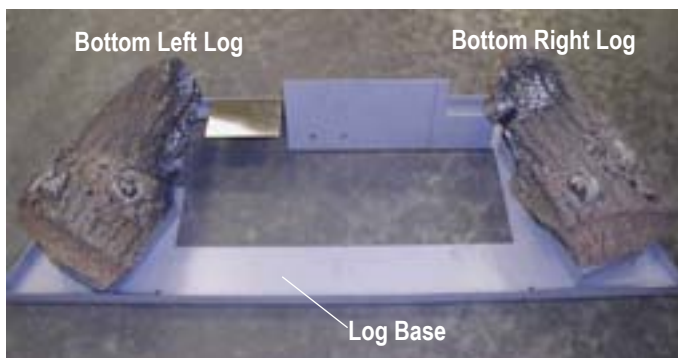

Figure 29a. Bottom left & right log placements.
- Step 2. Place the bottom left and right logs as shown above in **figure 29a**.